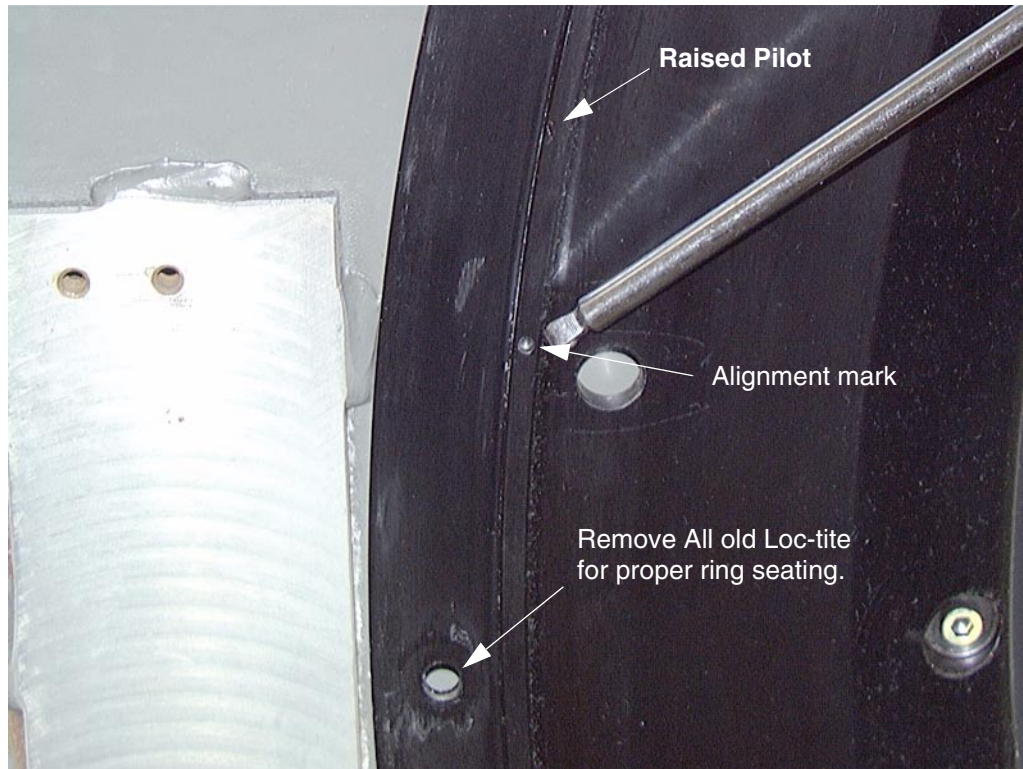

Figure 2-9 Bearing Flange
- c.) Rotate the bearing, and/or slip-ring, to align the black line on the inside of slip-ring with the small hole on the bearing flange pilot. Reference Figure 2-9.